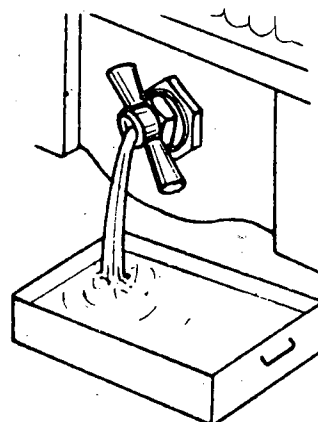

Fig. 2
- b) Open the taps of the engine and radiator (fig. 2).